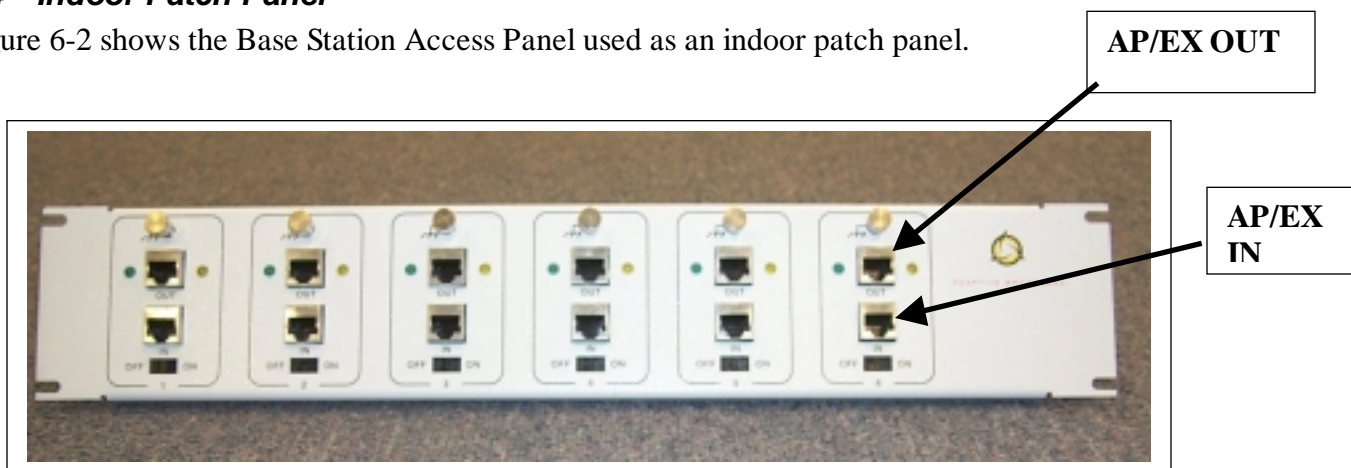

Figure 6-2 Access Panel used as Patch Panel
| Outdoor transceiver | 1 | See item 1 in Figure 6-2 |
| Mounting pole | 1 | See item 2 in Figure 6-2 |
| Pole clamp | 1 | See item 3 in Figure 6-2 |
| M6 washer | 2 | See item 4 in Figure 6-2 |
| M3 x M10 machine thread screws | 2 | See item 5 in Figure 6-2 |
| Grounding lug | 2 | See item 6 in Figure 6-2 |
Figure 6-2 shows the Base Station Access Panel used as an indoor patch panel.